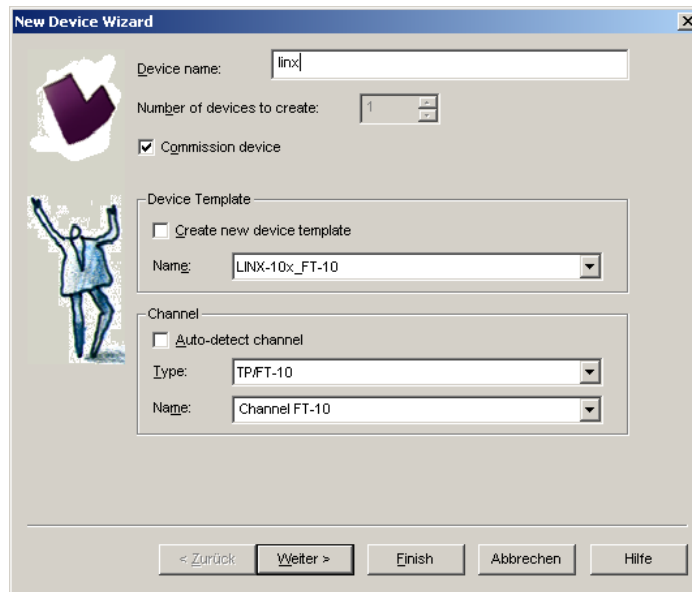

Figure 90: Create a new device in the drawing.
1. In your LonMaker drawing, drag a device stencil into the drawing. Enter an appropriate name as shown in Figure 90.